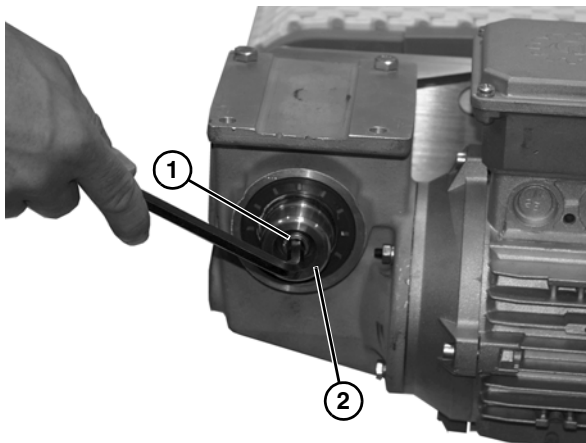

Figure 29
- Remove socket head screw (**Figure 29, item 1**) and gear reducer end cap (**Figure 29, item 2**).